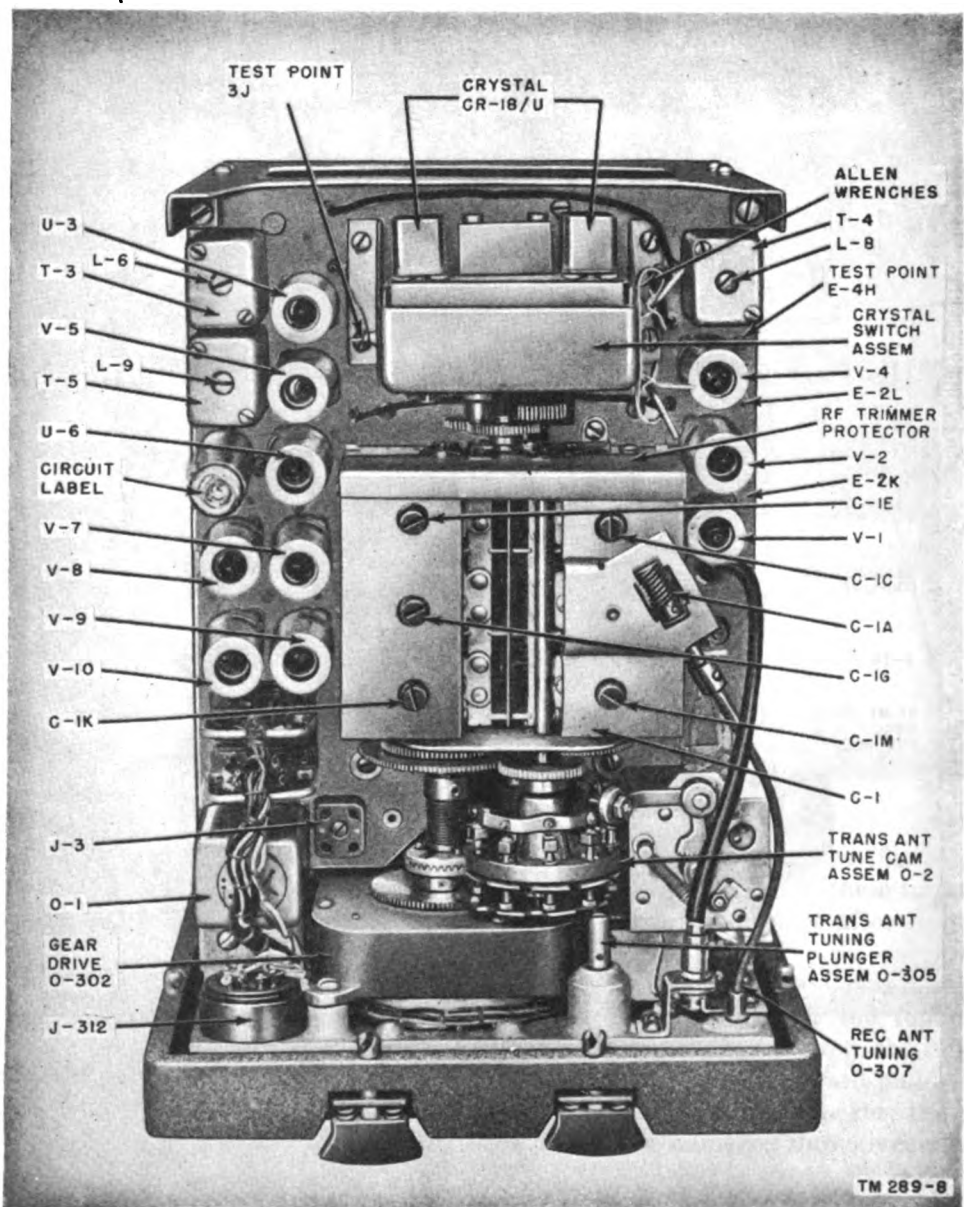

Figure 53. Set 1, view of r-f chassis.
a. Tubes V-1 through V-11 are mounted on the r-f chassis (fig. 53). Tubes V-101 through V-116